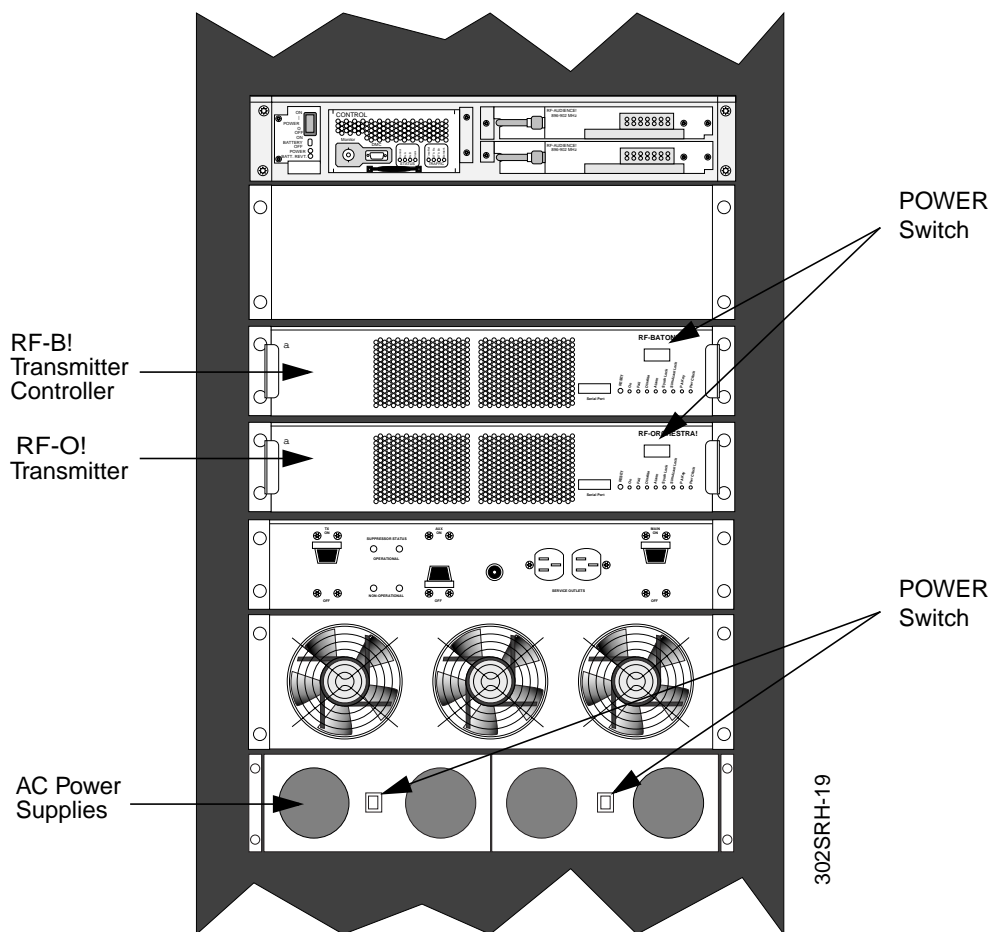

Figure 6-7: RF-O! Paging Station Power Switches
1. From the front of the cabinet, set the RF-B! transmitter controller POWER switch to OFF (O) (see Figure 6-7).
2. Set the RF-O! transmitter POWER switch to OFF (O) (see Figure 6-7).
3. Set the AC power supply switches to OFF (O) (see Figure 6-7).
8. From the front of the cabinet, set the AC power supply power switches to ON (|) (see Figure 6-7).
9. Set the RF-O! transmitter POWER switch to ON (|) (see Figure 6-7).